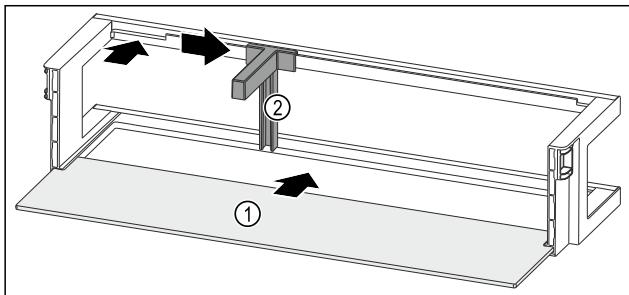

Fig. 92 Door racks with shelf
- ▶ Push the shelf Fig. 92 (1) into the side cutouts.
- ▶ Insert the bottle holder Fig. 92 (2) into the recess.
- ▶ Push the bottle holder Fig. 92 (2) to the side into the desired position.